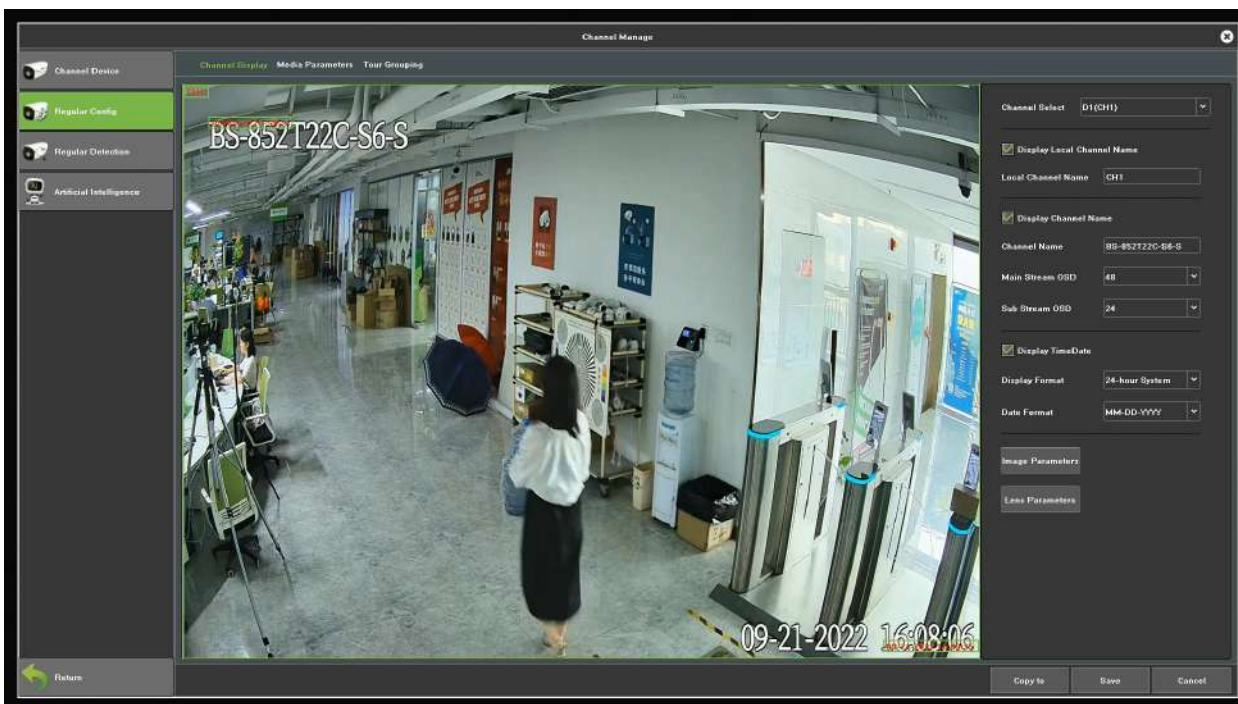

Figure 7.3 OSD Configuration Interface
- 2) Click Save button, the name that enter will show on the screen, you can use the mouse to click and drag the text frame on the window to adjust the OSD position, as shown in Figure 7.3.